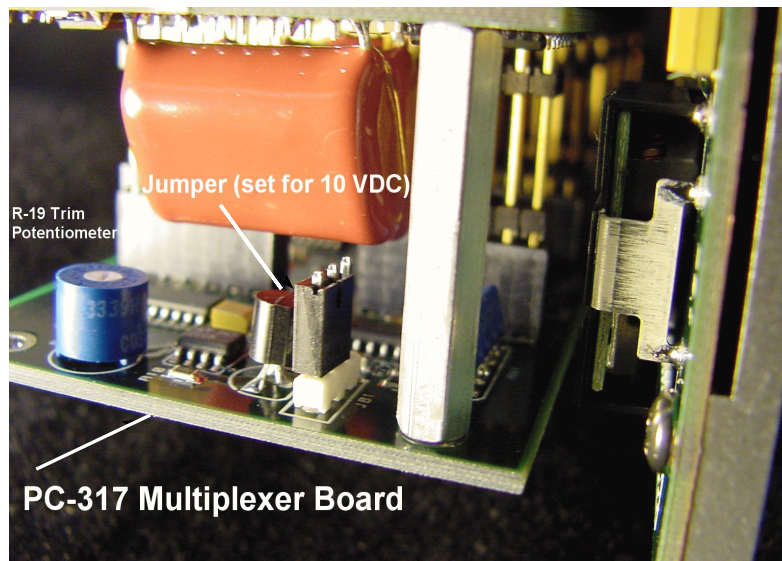

Figure 5.8
- (1) Disassemble the unit as described in **Section 5.1.2**.
- (2) Locate R-19, the output voltage trim potentiometer, on the PC-317 board. It is the only potentiometer on the board and is near the end of the unit on the top side of the lower PC board (PC-317), toward the end of the unit nearest the main power and communications connector. Note that R-19 is a four turn potentiometer. See **Figure 5.8**, below.
- (2) Locate the JB1 jumper block on the PC-317 board (See **Figure 5.8**, above). It is the only jumper block on the board and is near the end of the unit on the top side of the lower PC board (PC-317), toward the end of the unit nearest the main power and communications connector.
- (3) The jumper block may be placed in one of two positions on the board. When the jumper block is placed on the two pins nearest the edge of the board, the ten (10) volt output is selected. When the jumper is placed on the second and third pins from the edge of the board, the five (5) volt output is selected. The PC-317 board will have to be separated from the PC-316 board in order to relocate the jumper. Insure these two boards are fully reseated before proceeding.
- (4) Reinsert the electronics into the housing, ensuring that the alignment posts in the module's bottom panel align with the holes in the PC-280 mounting brackets. This may require loosening approximately one half turn, the three (3) screws attaching the PC-280 board to the top plate . Ensure that no connectors from the P1 harness are pinched between the top plate and the housing. Ensure that the top plate gasket is properly installed. Install the screw that secures the top panel to the housing. Tighten the three (3) screws attached to the PC-280 mounting brackets.
- (5) Test your scanner to ensure proper operation.